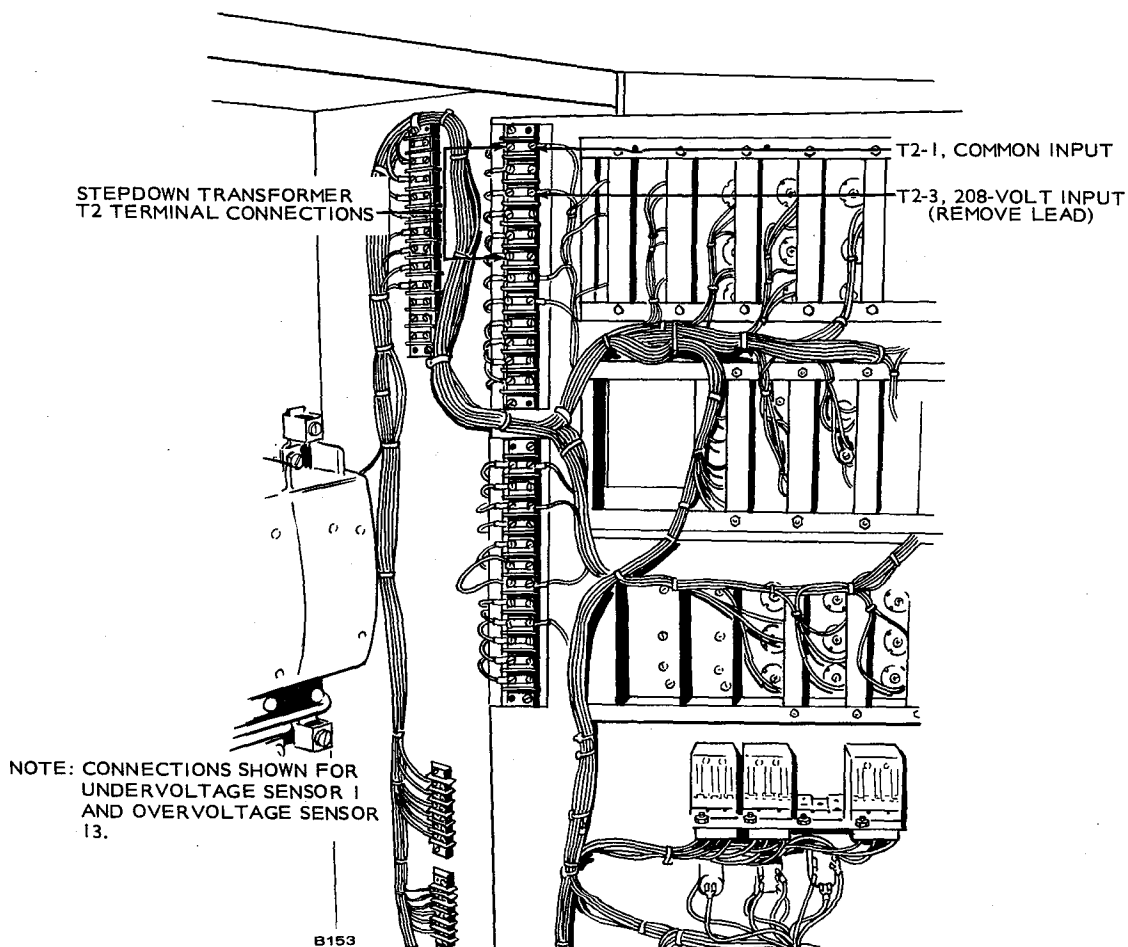

FIGURE 17. VOLTAGE SENSOR TRANSFORMER CONNECTIONS
11. Remove the plastic cover over the stepdown transformer terminals and remove the hot wire lead from the stepdown transformer's right side terminal of the terminal strip for the respective sensor. For example, if the nominal voltage is 208 volts, remove the wire lead from T2-3 for sensor 1. Do *not* remove the common (com) lead. See Figure 17.
10. Remove the plastic cover over the stepdown transformer terminals and remove the hot wire lead from the stepdown transformer's right side terminal of the terminal strip for the respective sensor. For example, if the nominal voltage is 208 volts, remove the wire lead from T2-3 for sensor 13. Do *not* remove the common (com) lead. See Figure 17.